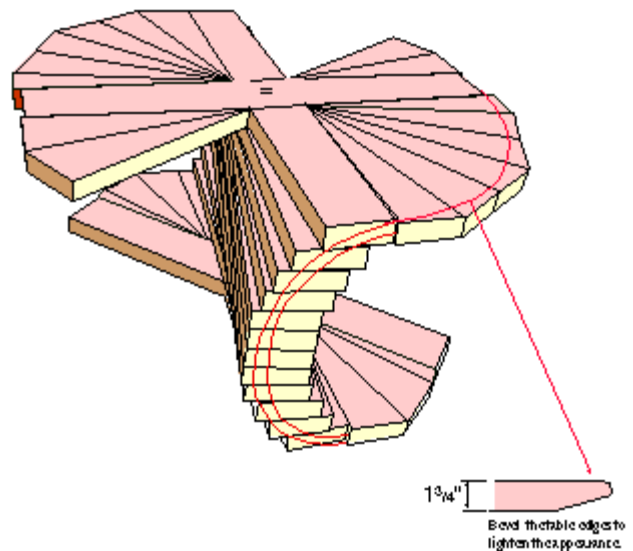

Fig 13
9. Now mark clearly onto the end sections the curving spiral. Mark both ends! Allow a waste/error margin. Finished thickness should be about 1 3/4" so that the spiral edge flows into and matches the wedge shaped edge thickness. (After shaping is completed, the edge can be bevelled to lighten the appearance. See Fig 13 a).